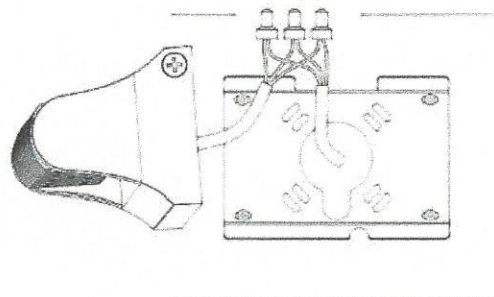

Figure 4
- 4.Make wiring connection and go through isolation treatment.(Figure 4)